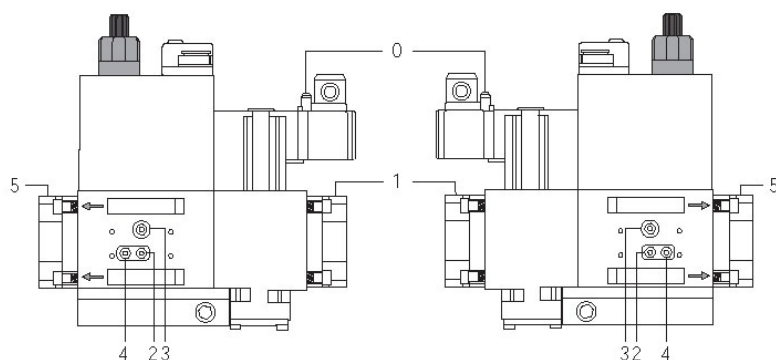
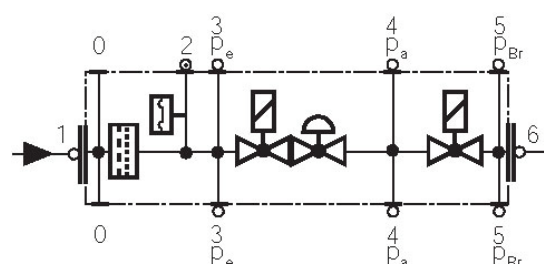

Fig. 41
Fig. 42
- Change the filter if the pressure difference between pressure connection 1 and 2 (Fig. 41-Fig. 42)  $\Delta p > 10$  mbar.
- Change the filter if the pressure difference between pressure connection 1 and 2 (Fig. 41-Fig. 42) is twice as high compared to the last check.